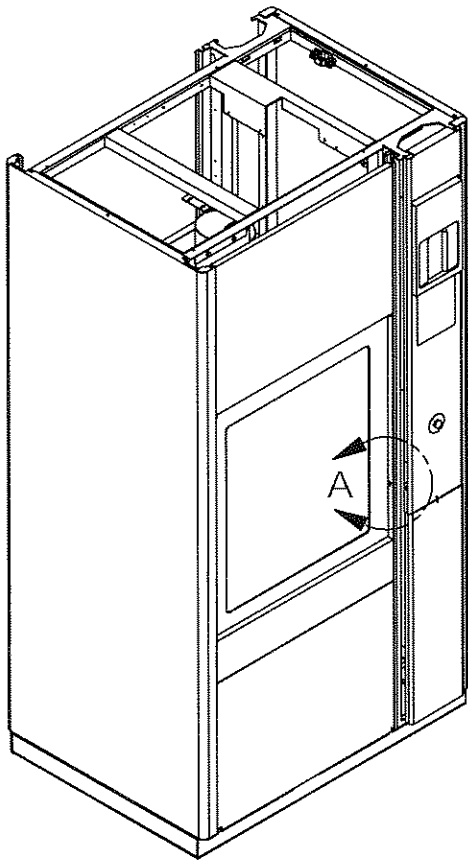

Figure 8-13. Adjust Door Distance
16. With door closed down, verify the cam adjustment. Use the mark on the door frame (see Figure 8-13, Detail A).
17. Adjust gate door stoppers on each top corner of the doors if door cams are not aligned with the door frame mark (see Figure 8-13).